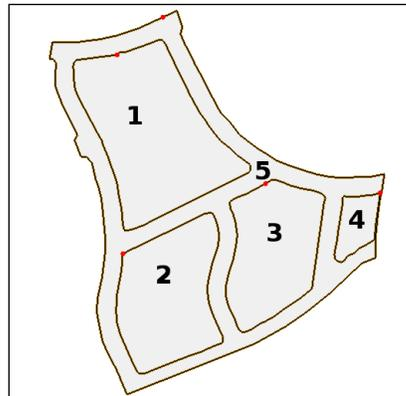

Figure 2 Subdivision polygons
2. Using the **Select Feature Polygon**  tool, double-click on the upper polygon (labeled “1” in Figure 2) to bring up the *Runoff Coefficient* dialog.
4. Repeat steps 2–3 for each of the other polygons in the subdivision, using the coefficients in the table below and referencing Figure 2: